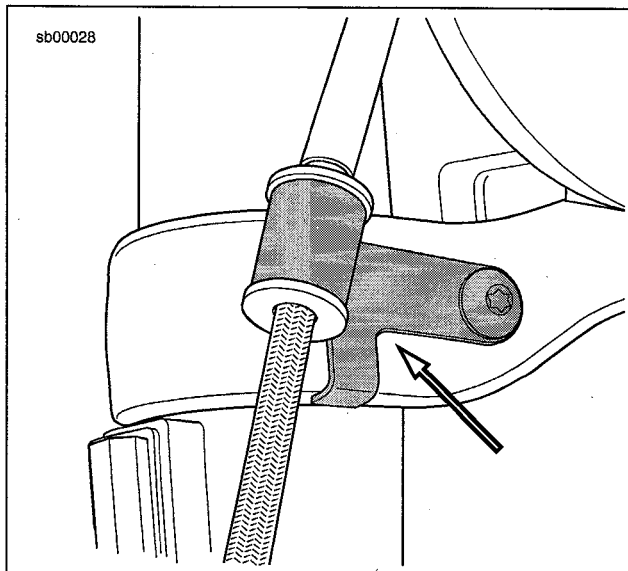

Figure 2. Front Brake Line Guide
6. Fit the rhino tape (2) against the lower edge of the outer fork tube and press into place.
7. Route the **new** brake line (3) around the outside of the front fork along side the rhino tape.
10. **XBScg:** See Figure 2. Install the front brake line guide. Tighten to 36-60 in-lbs (4-7 Nm).